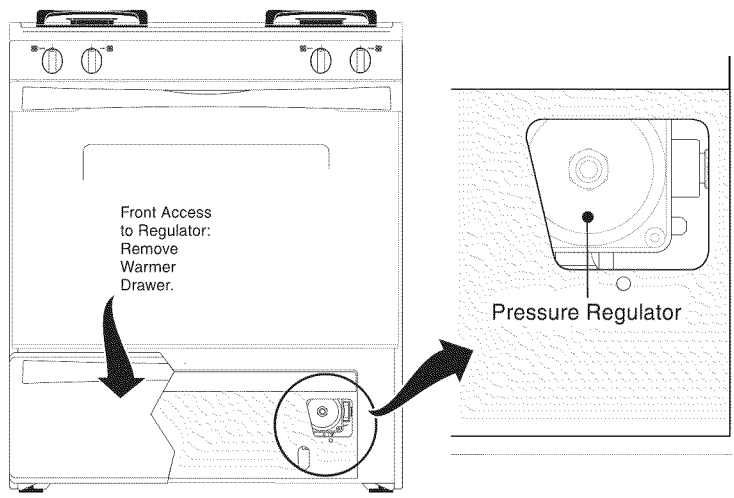

Fig. 2
- Pull the warmer drawer away from the appliance (See Fig. 2).